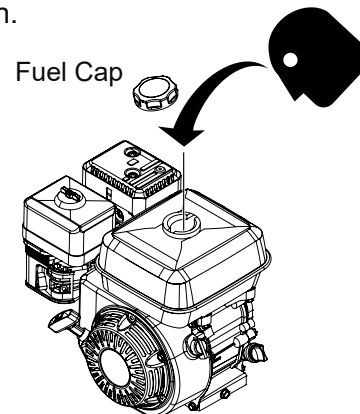

Fig. 8
- Visually check fuel level. If fuel level is low, refuel with unleaded fuel. (Fig. 8)